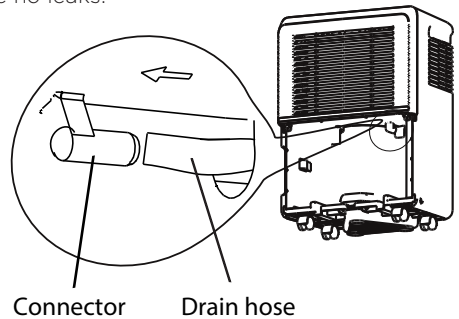

Fig. 7
- Remove the plastic cover from the back drain outlet of the unit and set aside and remove bucket, then insert the drain hose through the drain outlet of the unit and securely press it into the connector on the front of the unit. (See. Fig. 7)